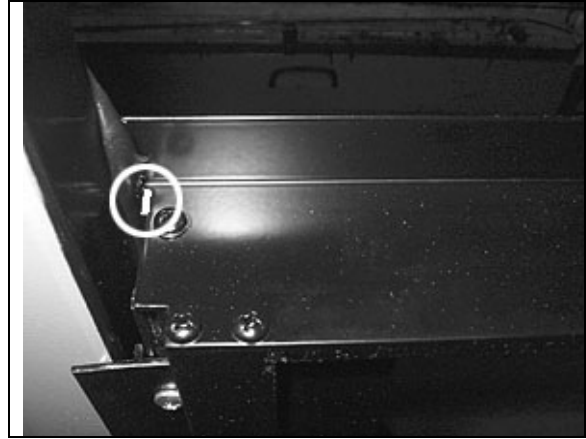

FIGURE 70 : AWNING WINDOW – SEAL THE CHINK
12. Using Sika 252 or 255, seal the chink between the structure vertical member and the awning window, both sides (FIGURE 70).